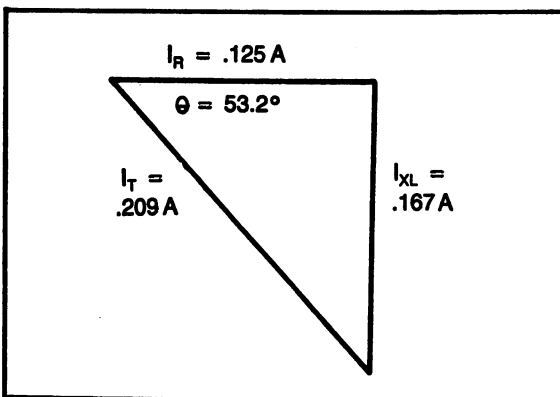

Fig. 14-5. Current triangle for sample problem 14-8.
Step 1. Current triangle, Fig. 14-5.